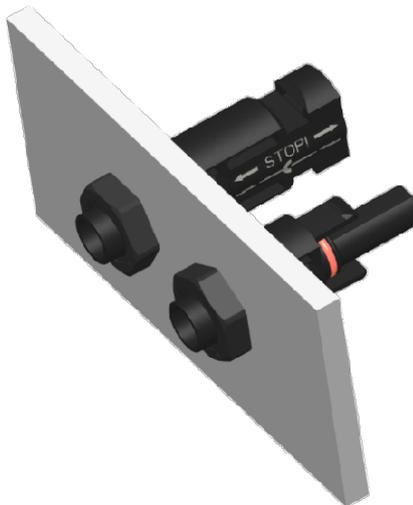

Figure 16
- ✧ 安装公/母面板连接器，用 2.0 N.m 的扭矩锁紧螺母。具体情况，需要由终端用户根据不同的面板验证合适的扭矩 (如图 16)。
When installing the male or female panel connector, it is recommended to use 2.0 N.m torque lock nut. The appropriate torque has to be verified in the end use according to the respective housing (Fig.16).